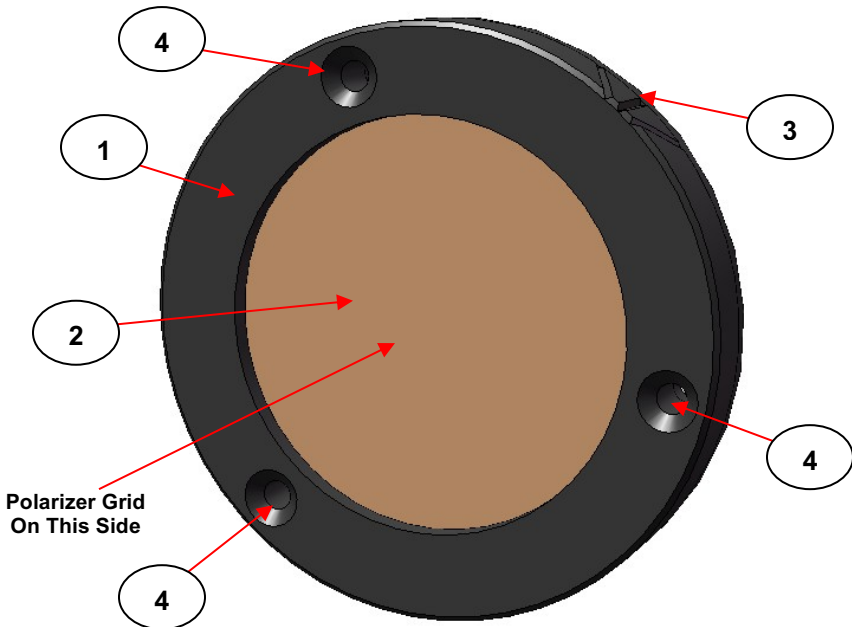
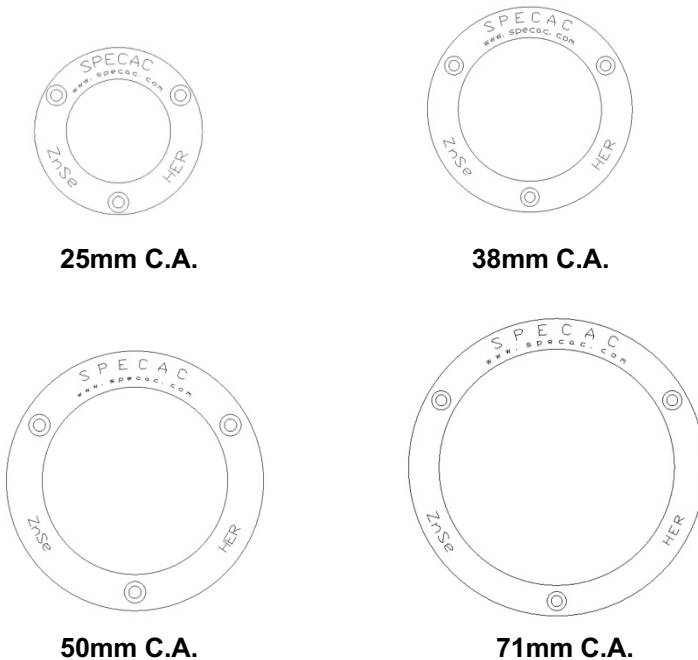

Fig 2. Polarizer Grid Surface Side of GS57010 Series Polarizers
Fig 4. Labeling of the GS57010 Series Polarizer
The polarizer grid is deposited onto one surface of the substrate (2) material. On the circumference edge of the anodized aluminium ring mount (1) there is a 'V' notch mark (3) and the direction point of the 'V' denotes which side of the substrate (2) the polarizing grid has been deposited. (See Fig 2.) In addition, the surface of the ring mount that carries the labeling of the polarizer for the substrate material type and whether it is a Standard, HER or IQ polarizer, is on the same side of the substrate (2) as the polarized grid. (See label types at Fig 4.)
In respect of the surface side of the polarizer for the substrate material (2) that has the deposited polarizer grid, the aluminium ring mount (1) surface has also been labeled accordingly to denote if it is a **Standard**, **HER** or **IQ** type of GS57010 Series polarizer. Fig 4. shows the four different sizes of aluminium ring mount (1) that correspond to the different sizes of substrate materials (2) available to provide a different size of C.A.
For **Standard** type polarizers, the substrate material (2) is labeled as shown for the example of ZnSe in each of the polarizer ring sizes as shown in **Fig 4**. In relation to the **SPECAC** label. For **HER** type polarizers, this label will also be printed in the segment of the ring mount as shown in relation to both the **SPECAC** and substrate material labels. For **IQ** type polarizers, these will be labeled similarly as shown for an **HER** type polarizer but can be discriminated from the **HER** type alone by referring to the serial number of the polarizer that is engraved onto the opposite surface (non-labeled side) of the aluminium ring mount (1).
For **any** type of GS57010 Series polarizer, the supporting aluminium ring mount (1) of the polarizer substrate material (2) has three fixing holes (4) that pass through the circumference in an equilateral triangle configuration. (See **Fig 2**.) The whole GS57010 Series polarizer assembly can be mounted independently using screws or bolts through these three fixing holes (4) if necessary.